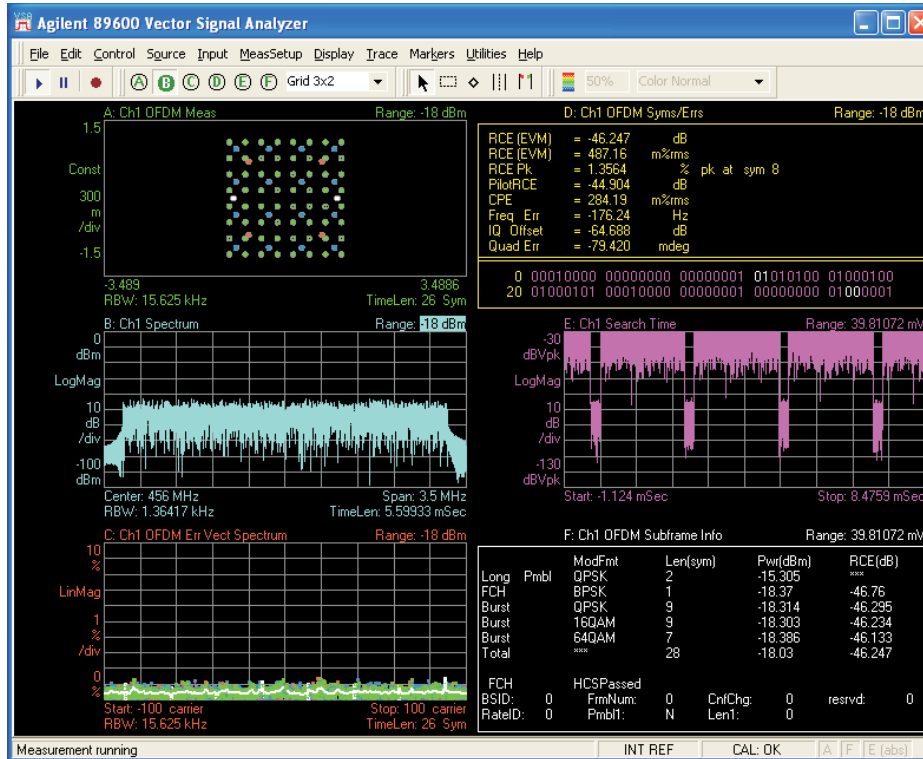

Figure 3. TRF1115EVM Performance
- Verify that EVM performance is less than  $-40$  dB; see Figure 3.